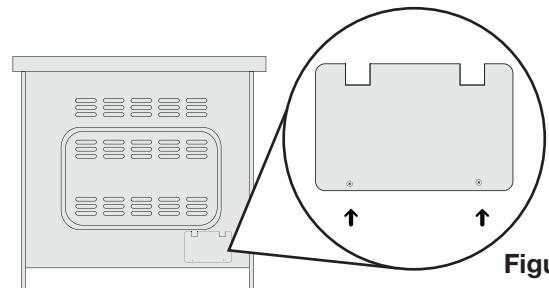

Figure 30
- 1** Remove plate from the rear end of the Range. Unscrew the two screws and set aside. (See Figure 30)